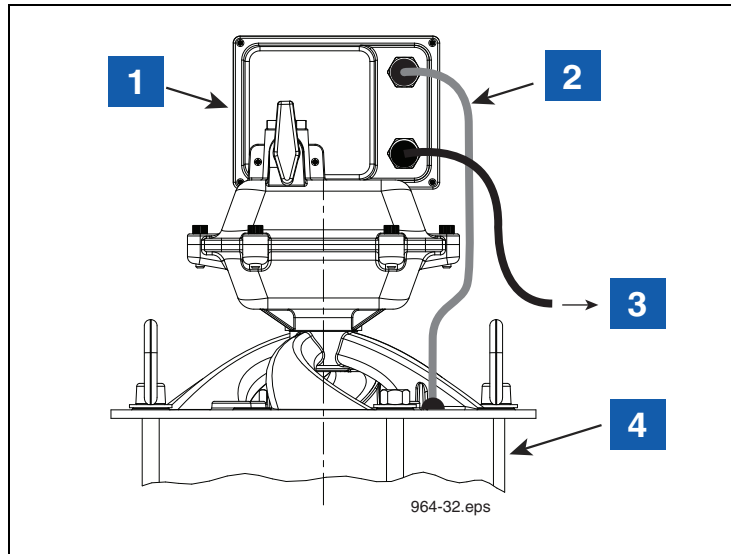

Figure 28. Attaching Transmitter Cable to CCVP Vapor Valve
13. Attach the connector end of the CCVP cable to the Carbon Canister's Vapor Polisher connector (see Figure 28).
LEGEND FOR NUMBERED BOXES IN Figure 28